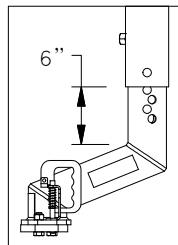

Figure A2: Extend-A-Goose coupler
- ! WARNING:** Installing the Extend-A-Goose with more than 6" of the coupler tube exposed past the end of the coupler sleeve could result in serious injury, or death, See Figure A2.